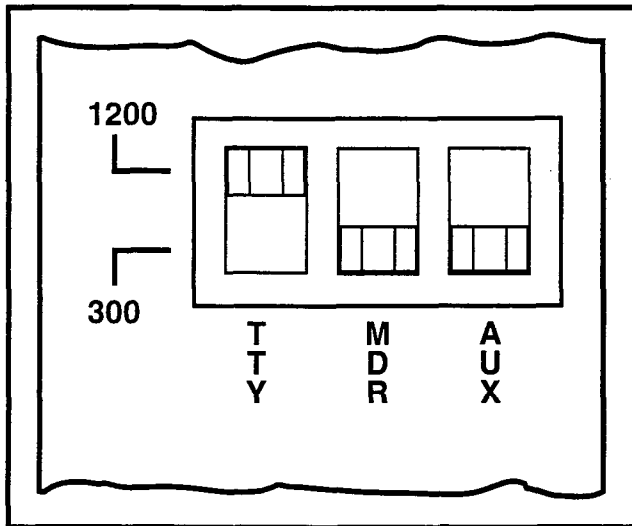

FIGURE 4-72—LCCU SWITCHES
9.64 The SMDR output speed can be set for either 300 bps or 1200 bps by the MDR switch on the front panel of the LCCU PCB (Figure 4-72). SMDR pin assignments are as follows: